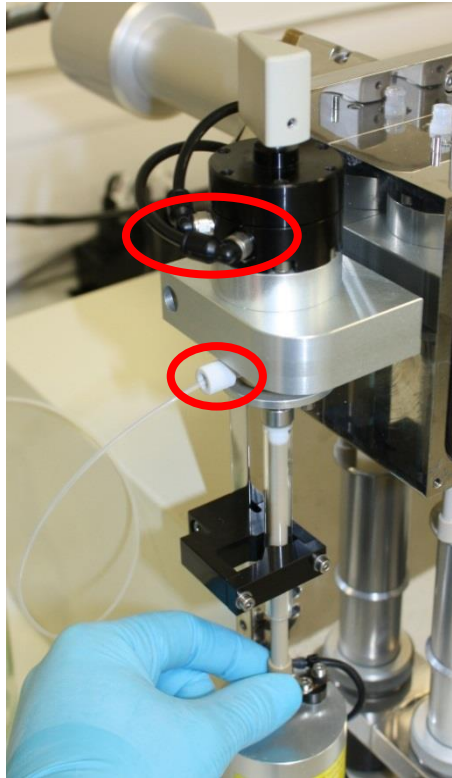

Figure 3.18 - Location of pneumatic tubing (top circle) and waste line (bottom circle)
1. Disconnect the pneumatic tubing from the top of the stop valve actuator. Take note of which tube goes into which adaptor (Figure 3.18, top circle).
2. Disconnect the finger tight waste line (Figure 3.18, bottom circle).